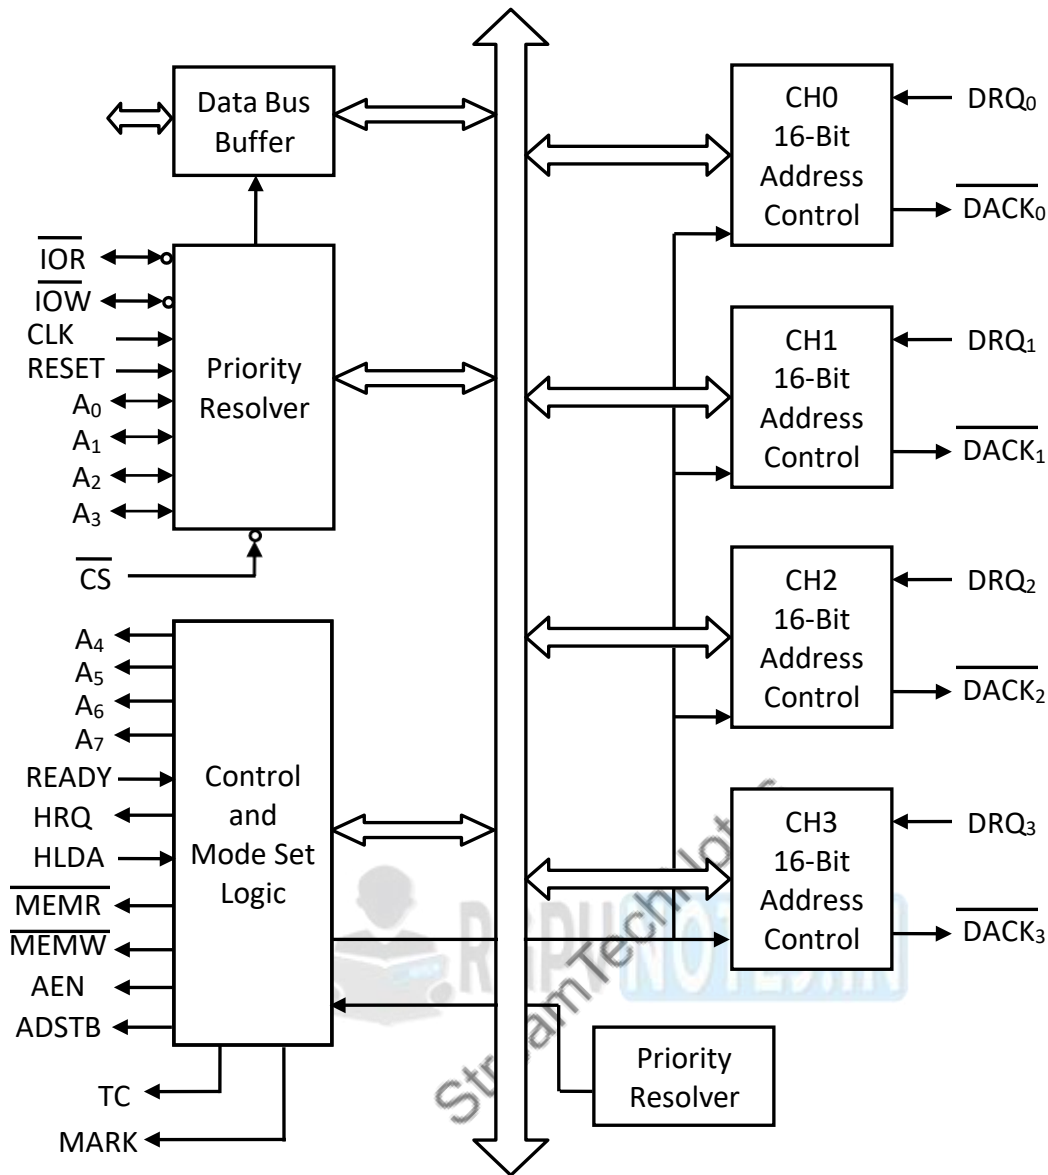

Fig. 4.6 : Internal Architecture of 8257
**DMA Controller 8257:** The internal architecture of 8257 DMA controller is as shown in the Fig. 4.6 below. This controller has four DMA channels, which can be used independently for DMA data transfer through these channels at a time. The DMA controller has 8-bit internal data buffer, a read/write logic unit, a control unit, a priority resolving unit along with a set of registers.